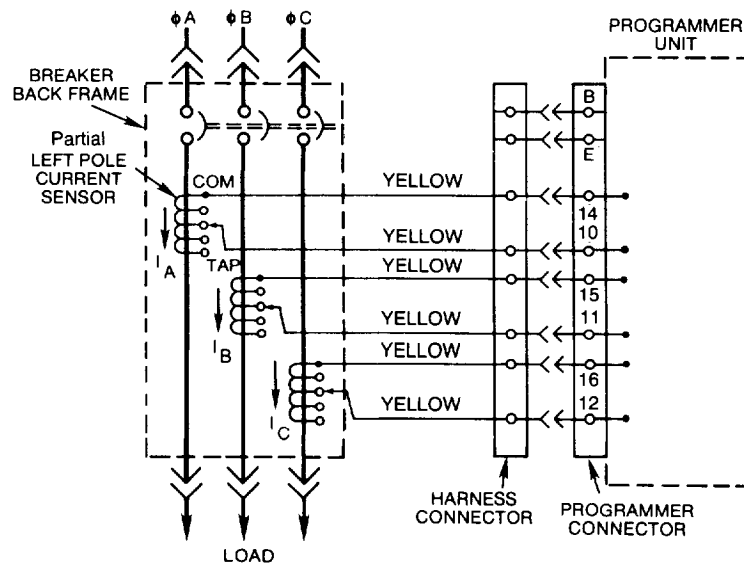

**FIG. 92. CABLING DIAGRAM—MICROVERSATRIP
(3) If The breaker's lower studs connect to the supply source, then the neutral sensor must have its LOAD end connected to the source. See Fig. 92.
(4) Ensure that the neutral conductor is carrying only that neutral current associated with the breaker's load current (neutral not shared with other loads).